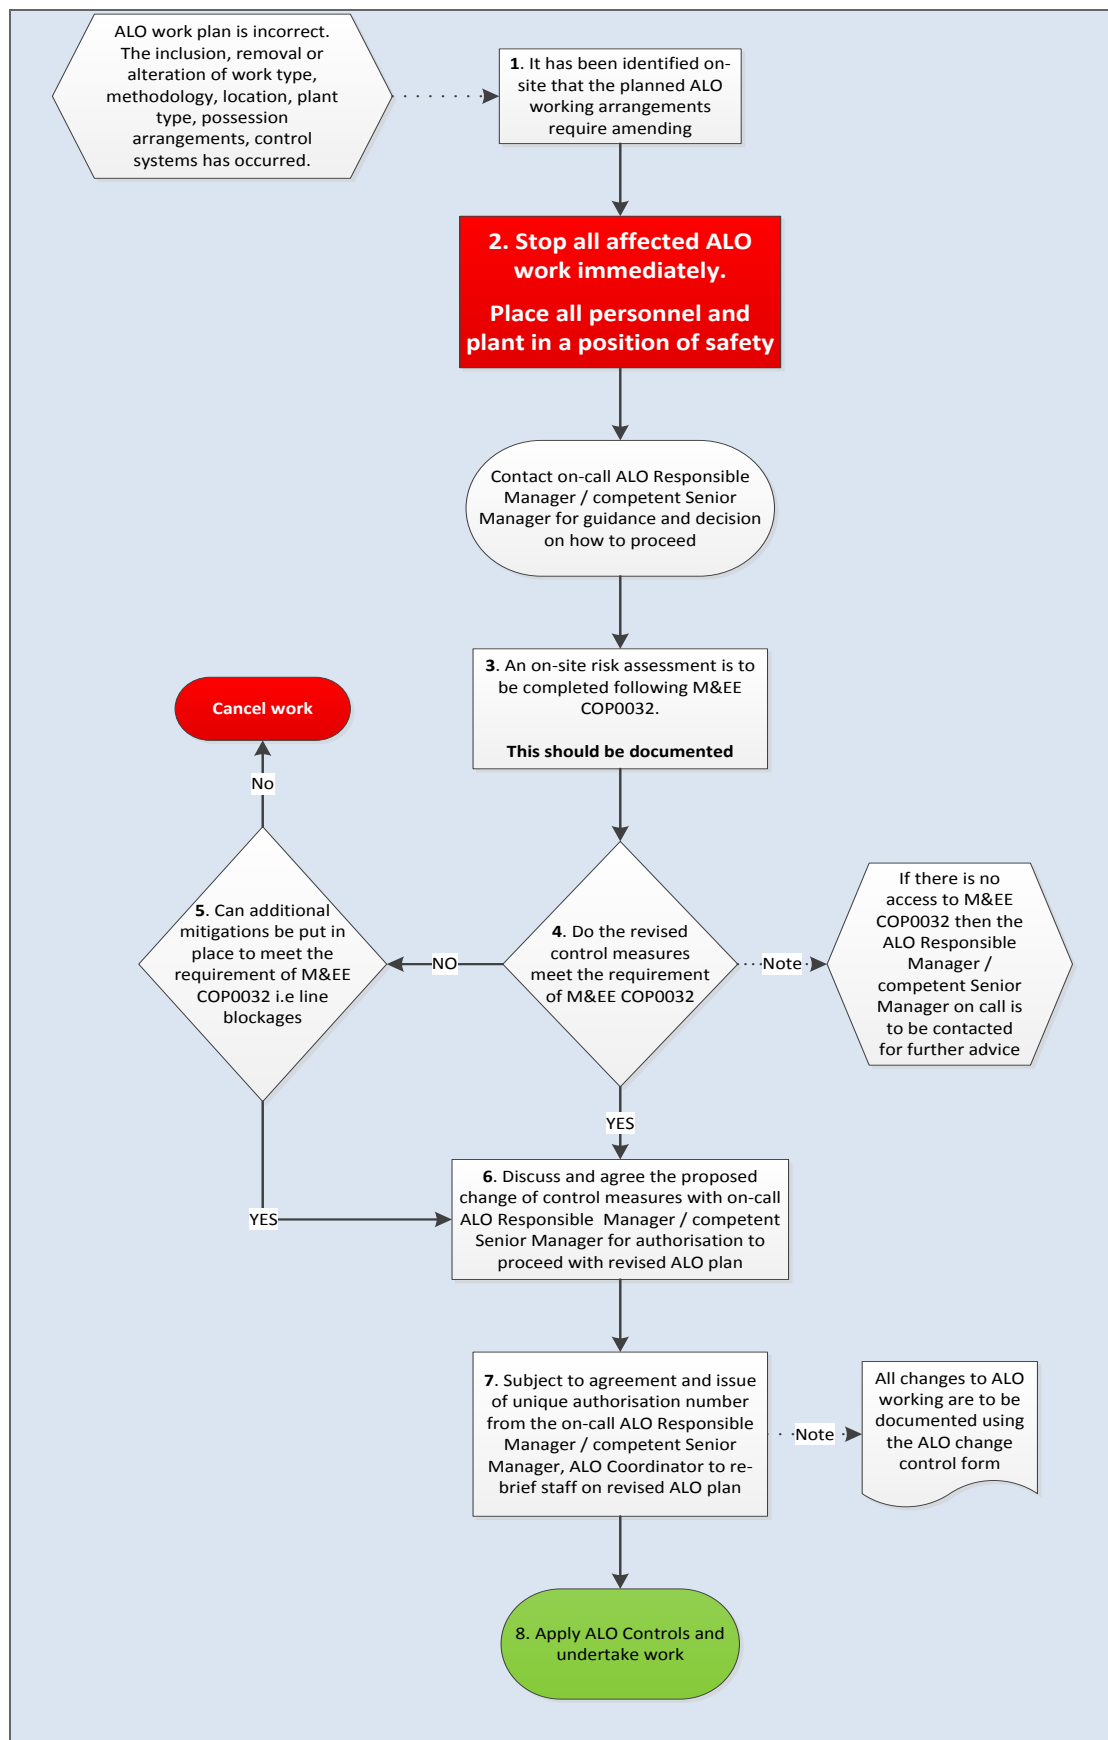

Fig 3 On site change control flowchart
- 3.2.2 If a change is required then the flow diagram Figure 3 below should be followed.